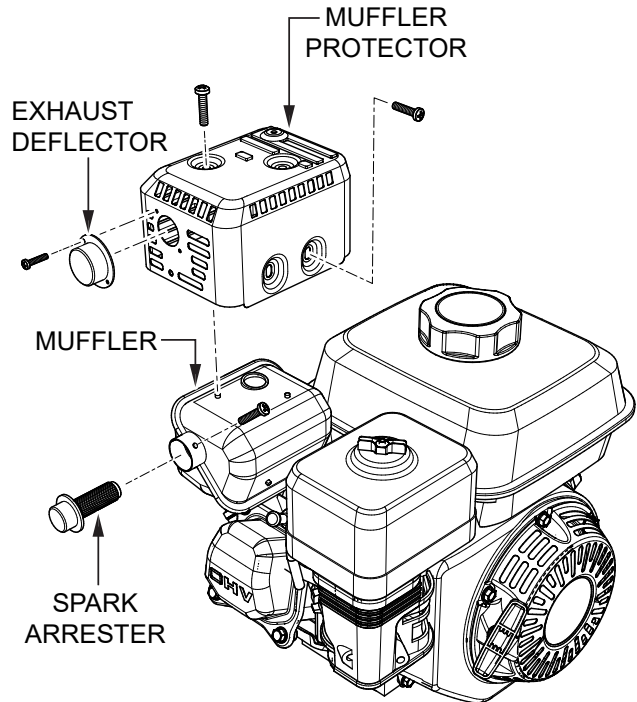

Figure 56. Spark Arrester Removal
1. Remove the screws that secure the exhaust deflector to the muffler protector, then remove the exhaust deflector (Figure 56).
2. Remove the screws that secure the muffler protector to the muffler, then remove the muffler protector (Figure 56).
3. Remove the screw securing the spark arrester to the muffler, then remove the spark arrester (Figure 56).